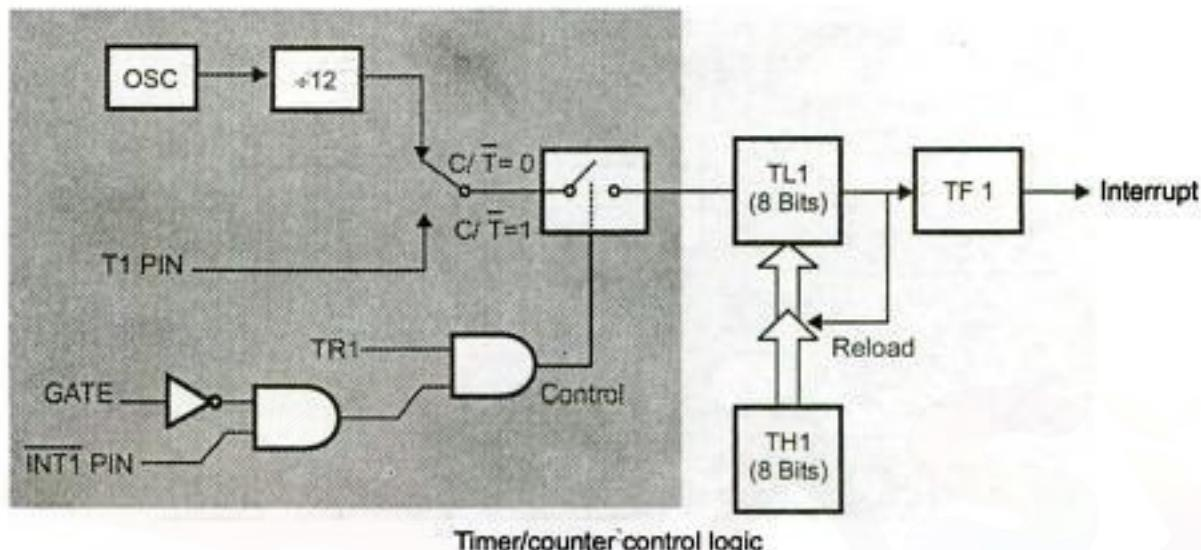

Fig. 9.5 Timer/counter 1 mode 2 : 8-bit auto reload
- Hardware :** The timers can be started and stopped by an external hardware as long as 'GATE' bit in TMOD register is 1. In Figs. 9.5 and 9.6 , the start and stop operations of the timers are done externally through pins $\overline{\text{INT}0}$ (pin 3.2) and $\overline{\text{INT}1}$ (pin 3.3) for timers 0 and 1 respectively. The timer can be started or stopped at any time externally via a simple switch.
Mode 2 configures the Timer register as an 8-bit Counter (TL1) with automatic reload, as shown in Fig. 9.5. Overflow from TL1 not only sets TF1, but also reloads TL1 with the contents of TH1, which is preset by software. The reload leaves TH1 unchanged. Mode 2 operation is the same for Timer/Counter 0.